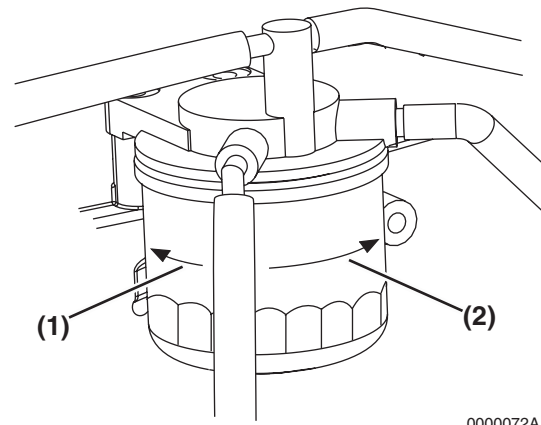

Figure 15
- Remove the fuel filter using a filter wrench to turn it to the left (**Figure 15, (1)**). When removing the fuel filter, carefully hold it to prevent the fuel from spilling. Wipe up all spilled fuel.
- Install the new fuel filter. Hand tighten it to the right (**Figure 15, (2)**) until it comes in contact with the mounting surface. Use a filter wrench to tighten it one additional turn.